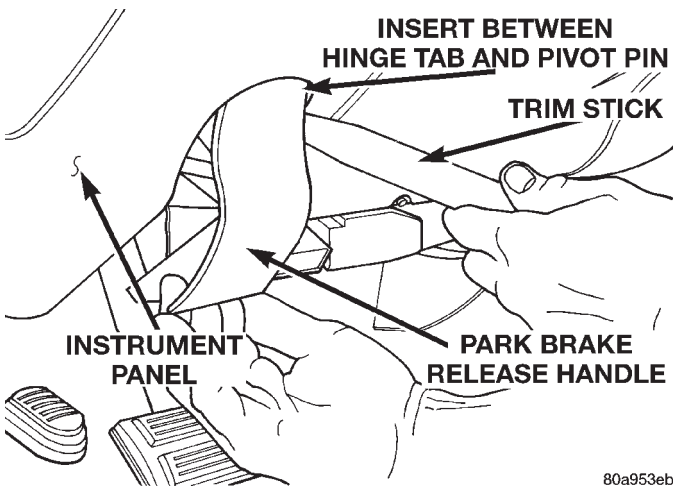

Fig. 11 Park Brake Release Handle Remove/Install
- (1) Disconnect and isolate the battery negative cable.
- (2) Reach under the driver side outboard end of the instrument panel to access and unsnap the plastic retainer clip from the park brake release linkage rod at the back of the park brake release handle.
- (3) Disengage the park brake release linkage rod end from the back of the park brake release handle.
- (4) Using a trim stick or another suitable wide flat-bladed tool, gently pry one of the park brake handle hinge tabs away from its pivot pin on the instrument panel (Fig. 11).